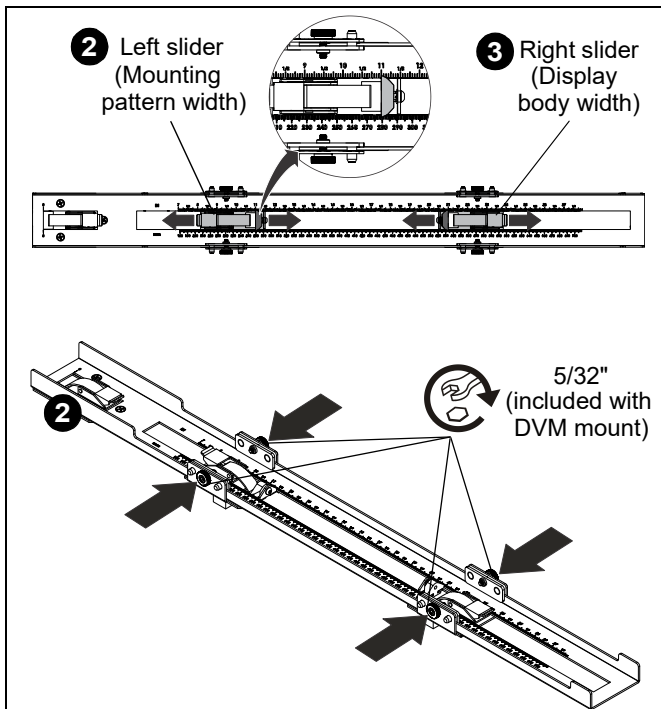

Figure 2
2. Adjust the position of the left slider to the exact measurement of the mounting pattern width. (See Figure 2)
3. Adjust the position of the right slider to the exact measurement of the display body width. (See Figure 2)